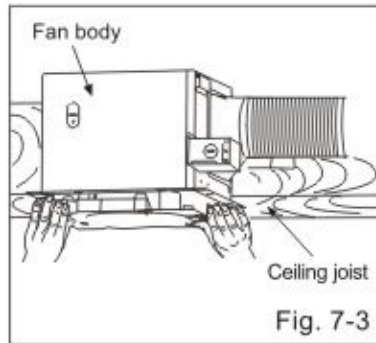

Fig. 7-3
6. Insert the blower into the fan body. (Fig.7-3)